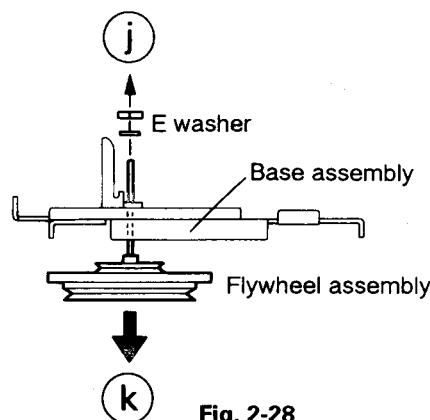

Fig. 2-28
■ Flywheel assembly (Fig. 2-28)
1. E. washer retaining the flywheel assembly in the direction of arrow ⑪.
2. Pull the flywheel assembly out of the back side of the cassette mechanism in the direction of the arrow ⑫.